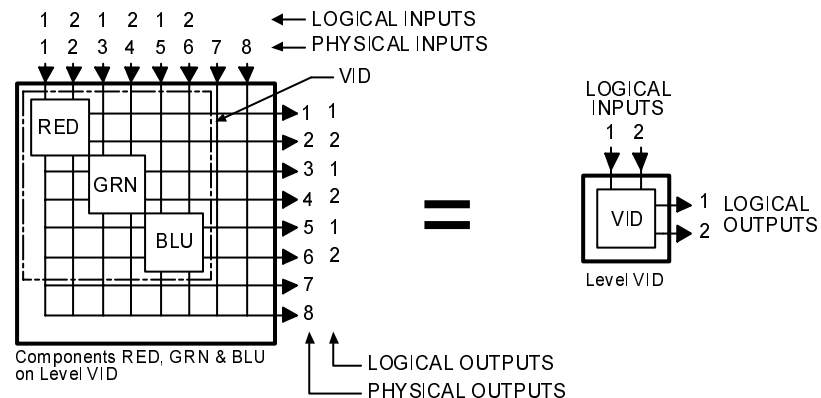

Figure 20 The Components of a 2x2 RGB Level
A component is the most basic signal element which can be switched by a single crosspoint. For example, in RGB video, “Red”, “Green”, and “Blue” are components; in stereo audio, “Left” and “Right” are components. The example shown in Figure 20 is a 2x2 RGB video level named VID which is made up of three components named RED, GRN and BLU.
2. Enter the component name in the **Component Name** box. Component names are one to eight characters in length and are constructed using uppercase letters, numbers, and spaces. The first character must be a letter. For the example shown in Figure 20, “RED” would be used for the first component, “GRN” for the second, and “BLU” for the third.
4. Select the level this component will be associated with from the **Level** drop box. For the example shown in Figure 20, “VID” would be used for all three components.
5. Enter the amount of **Input Offset** and **Output Offset**. Acceptable values for input and output offsets are shown in Table 1 on page 1. For the example shown in Figure 20, “0” and “0” would be used for the component “RED”; “2” and “2” would be used for the component “GRN”; and “4” and “4” would be used for the component “BLU”. For more information about these fields, see “Input Offset” on page 89 and “Output Offset” on page 94.